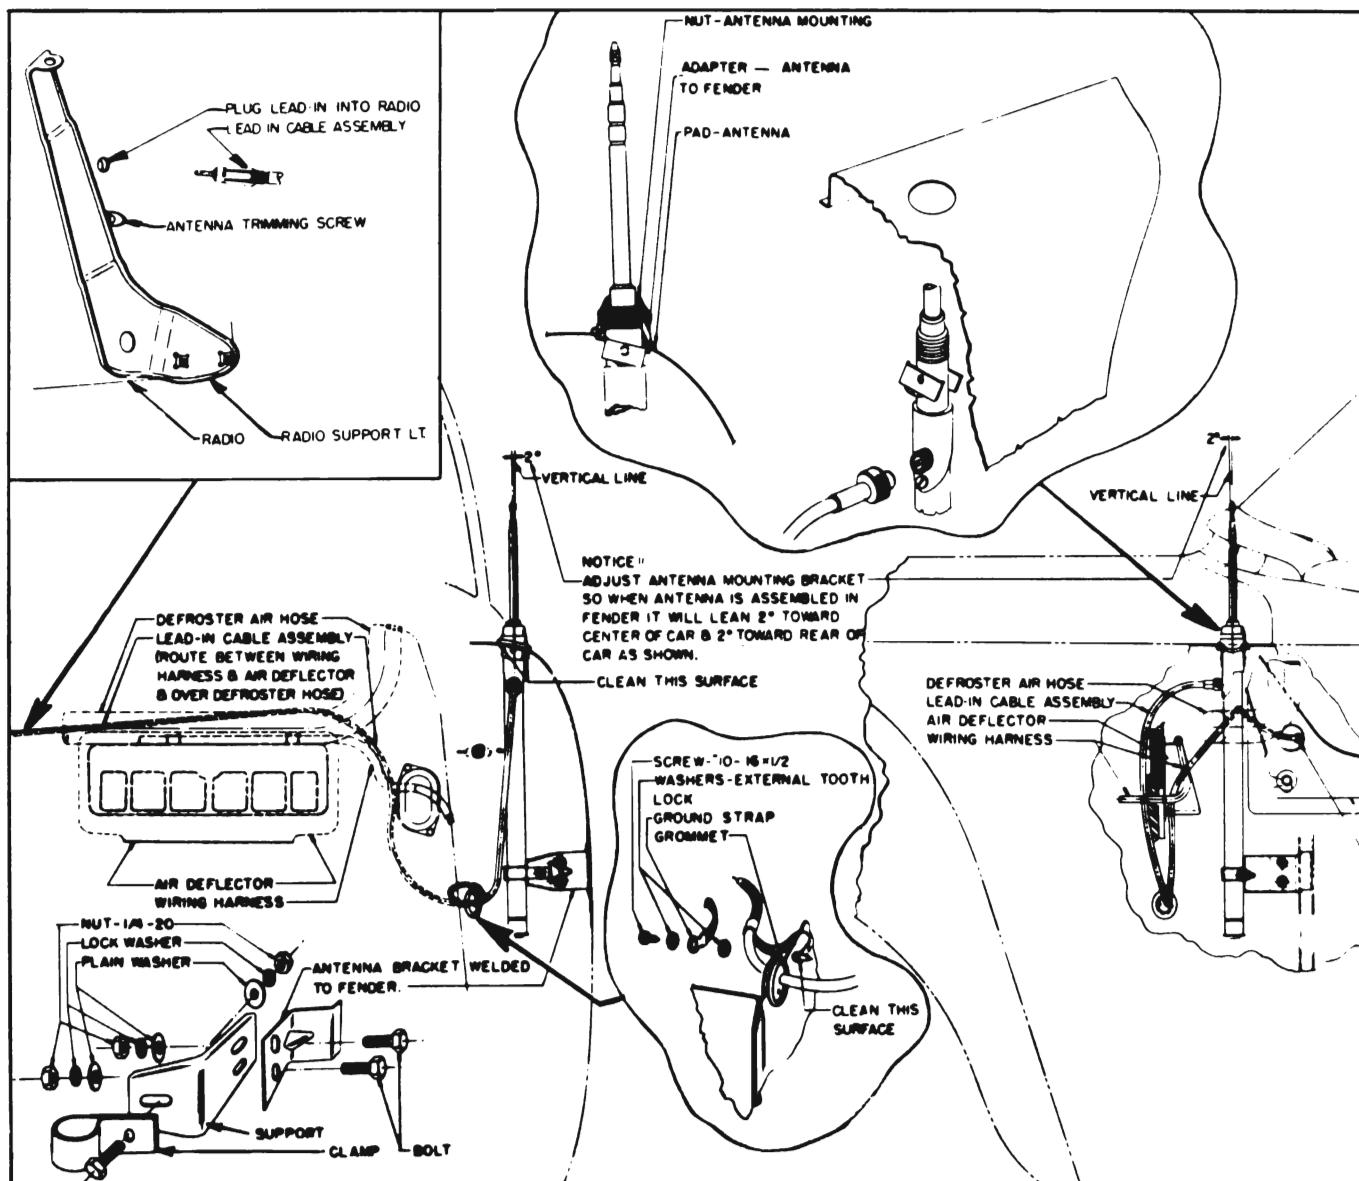

Figure 11-5—Manual Antenna Installation Details
4. Connect antenna lead-in cable to the antenna assembly, tighten securely, then insert antenna assembly through pad from under fender, with antenna lead-in connector pointing toward front of car. **NOTE: Do not use soap or grease in this operation.** See figure 11-5.
6. Connect antenna clamp (on body tube) to mounting support bracket, fully extend antenna, and adjust mounting support and clamp so that the antenna will lean two degrees rearward and two degrees inward from vertical. Tighten support and clamp securely. See figure 11-5.
9. Attach cable ground lead to cowl at hole provided. Be sure to clean paint from cowl surface at this point, then attach the lead terminal with a 10-16 x 1/2" tapping screw, with internal lockwashers placed on both sides of the terminal. See figure 11-5.